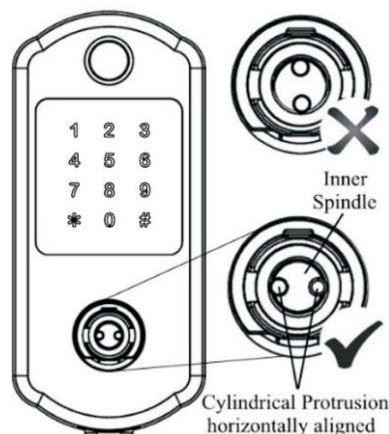

fig. 6
3.1 Rotate inner Spindle by Screwdriver to make the Cylindrical Protrusions horizontally aligned (see fig. 6). (Please also refer picture on page 17 and 18).
3.4 Put the lever on the Lever Spindle (see fig. 7c or 8c). The lever should stop half way when you push the Lever in. **(Caution: Refer fig. 6 to do step 3.1 and 3.2 if Cylinder is stuck in lever or if the key can't be inserted completely and rotated.)** Insert key into the Cylinder, rotate the key **CLOCKWISE** 90° (see fig. 9a). Continue rotating the key while pushing the lever until the lever is pushed in (see fig. 9b). The